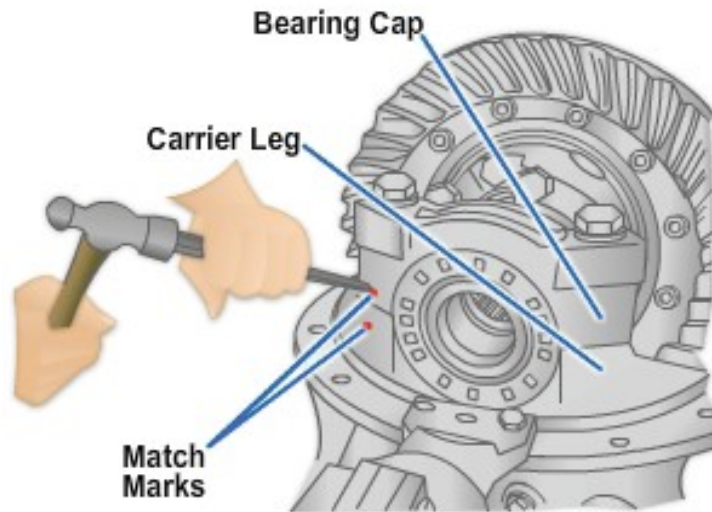

Figure 8-69 - Mark the carrier components for reassembly.
4. Mark one carrier leg and bearing cap for the purpose of correctly matching the parts when the carrier is reassembled. A center punch and hammer can be used to mark these components (*Figure 8-69*). Avoid using paint because it may contaminate when placed back in service.